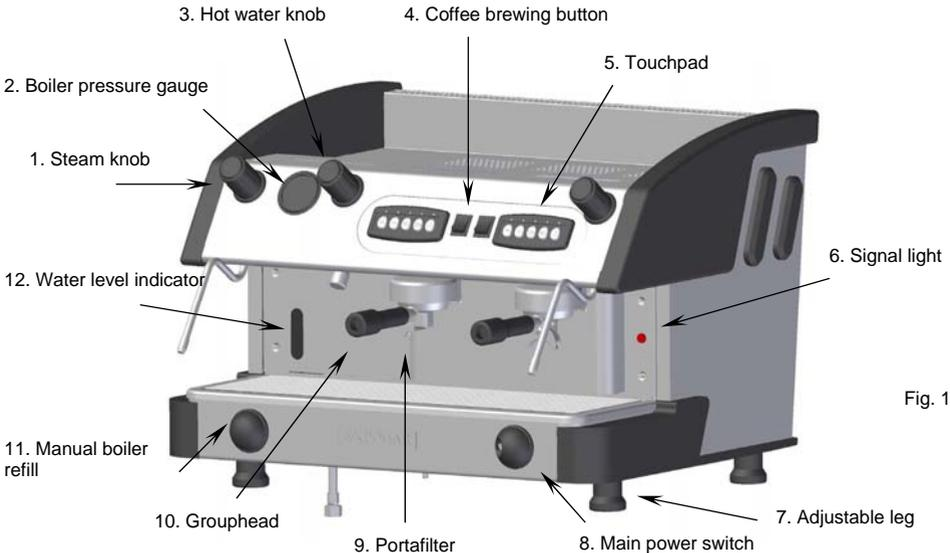

Fig. 1
- The general switch is a knob, -see (8)Fig.1
3. Turn ON the main power switch, -see (8)Fig. 1-.
"The red pilot, -see (6) Fig.1-, shows us the machine is heating-up. Once it turns OFF, it means the machine has reached the ideal temperature".
5. Press the brew switch, -see (4) Fig. 1-, or the control panel, -see (5) Fig. 1-, until water comes out continuously from the groups, -see (10) Fig. 1-.
- d) Insert the filled portafilter into the grouphead and lock it in, -see Fig.5-. Place one cup beneath the spout and turn on the brew switch, -see (5) Fig. 1-.